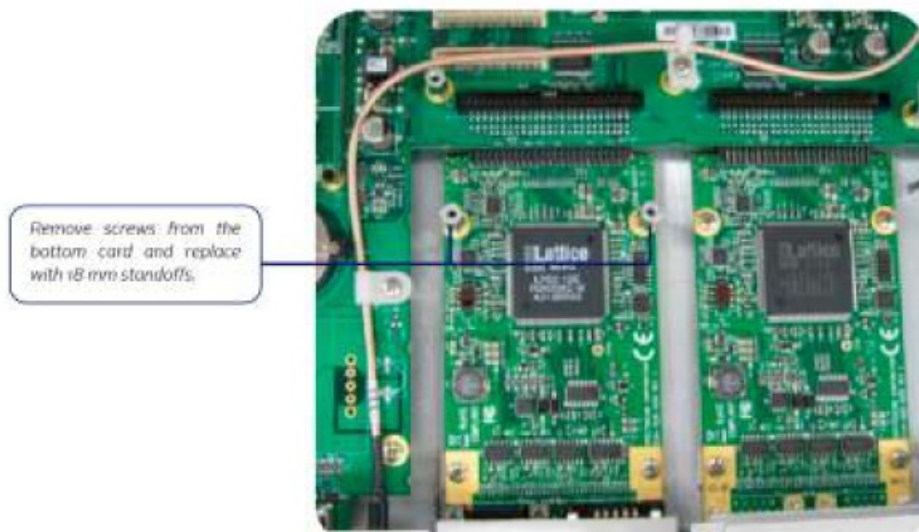

Figure 6: Bottom card with standoffs installed
- Screw the 18-mm standoffs into the option card populating the bottom slot (see Figure 6) , applying a torque of 0.9 Nm/8.9 in-lbs.